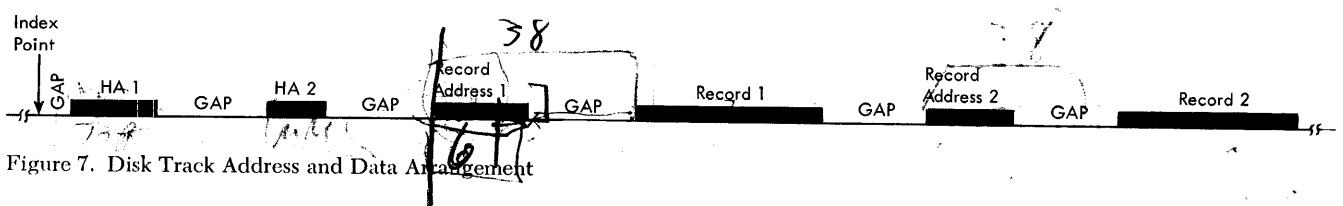

Figure 7. Disk Track Address and Data Arrangement
A data track and the data to be written on a track or read from a track are identified by means of a home address one (HA1), a home address two (HA2) and as many record addresses (RA) as there are record areas to be established on the data track (Figure 7).
Each record area established for a data track is preceded by a record address (Figure 7). The record address consists of six or more characters which may be numeric, alphabetic, or special characters. They are assigned and written by the user to fit any convenient addressing scheme. A record address need not have any relationship to the home address of the track where it is written. When the record address (six characters) is verified, only the numeric portion (four low order bits) of the first four characters are verified. All of the bits of the last two characters are verified. Characters of a record address exceeding six in number are not verified.